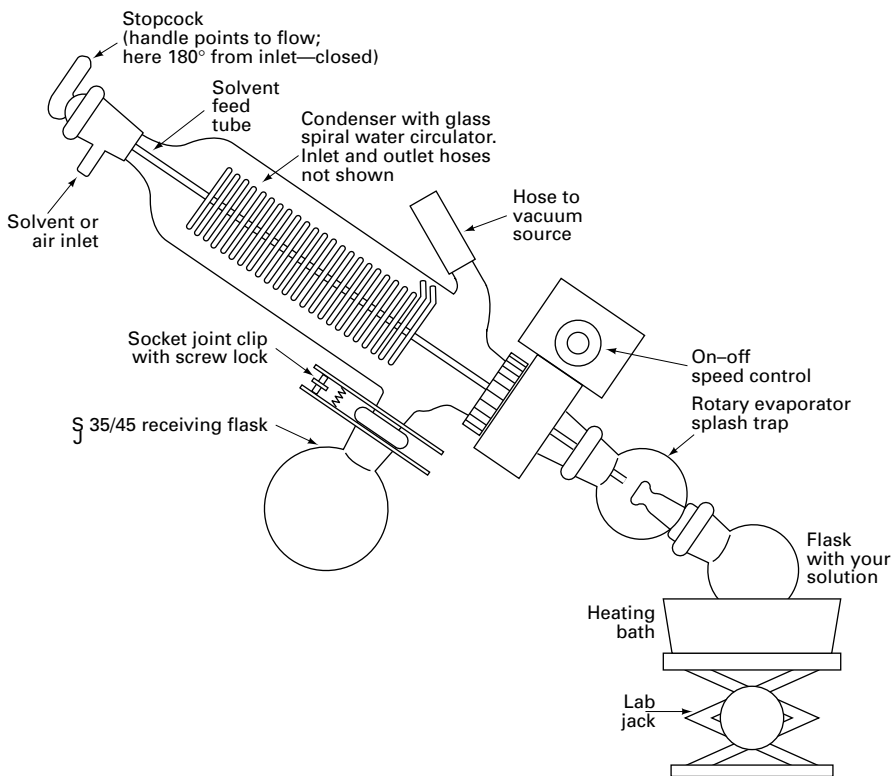

FIGURE 21.1 The Büchi rotary evaporator.
From the top, the Büchi rotovap (Fig. 21.1) consists of:
3. **Condenser.** This is a pretty fancy condenser in which the cooling water flows through this long, coiled glass tube inside the condenser. Cool! This alone can account for the virtual disappearance of other styles of rotovap that are just as effective and considerably cheaper. They are just not as cool. There's a glass inlet and outlet tube (not shown in Figure 21.1) "around the back." They're close enough to the vacuum source connection that you might at first confuse the three, but a close inspection will reveal which is which.